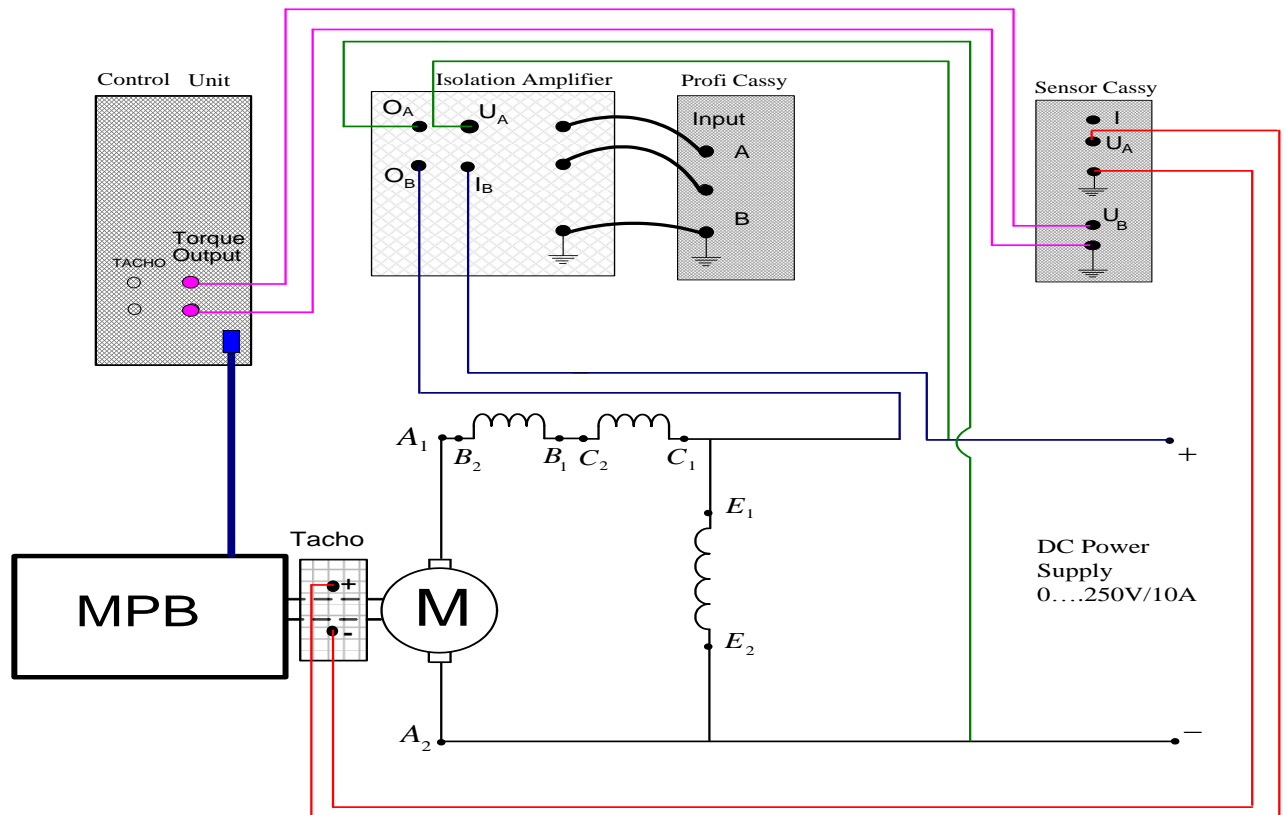

Figure 2: Shunt DC Motor Sep Up
16. Connect the circuit as shown in Figure 2 using Cassy measurement Connection for the indicated source current, applied voltage, rotor speed and applied torque